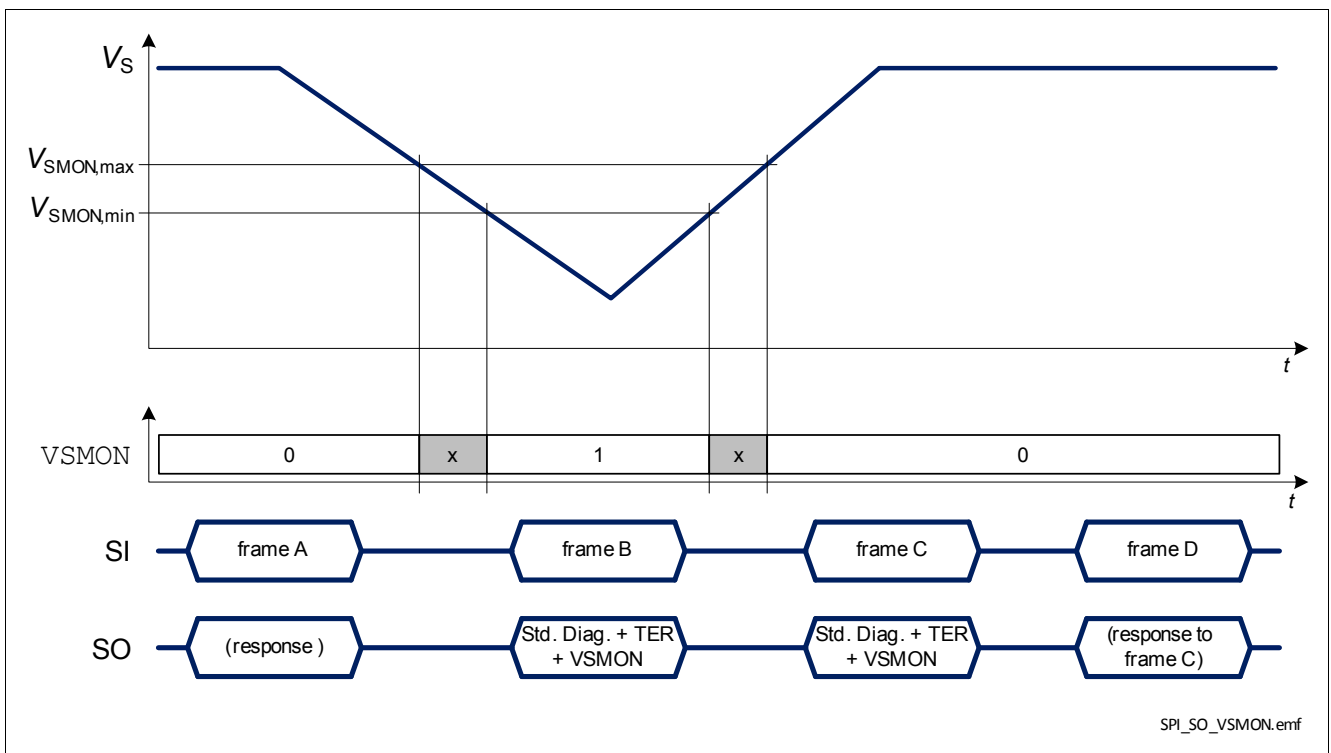

Figure 34 BTS54040-LBF response in case of a negative battery voltage transient
- when $V_S < V_{SMON}$ and $\text{DCR.MUX} \neq 111_B$, as shown in Figure 34